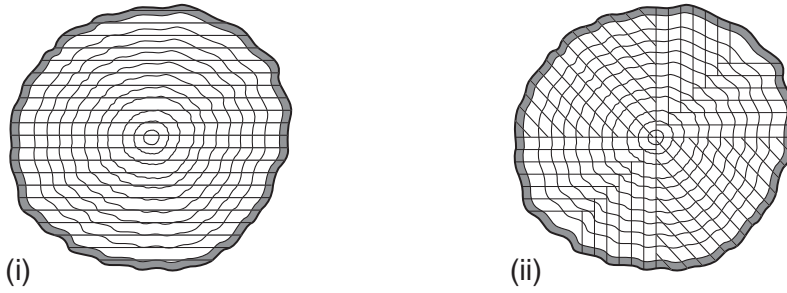

Fig. 6
- 7 Fig. 6 shows the cross section of tree trunks showing two methods of conversion. Name each method.